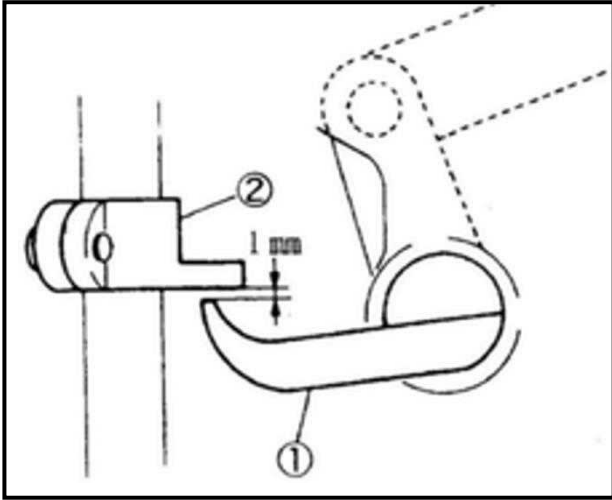

Fig.3
1.当压脚紧贴在针板上时，在抬压脚连接轴①跟压脚连接托架②留 1mm的间隙。(Fig.3,4)
1 As standard, make the clearance between the presser bar lifter lever ① and the presser bar connecting bracket ② to 1 mm when the presser foot touches the stitch plate closely.(Fig. 3,4)